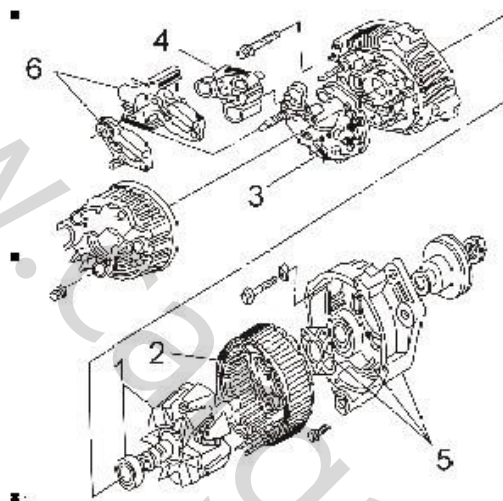

Fig.12-16 Composition of Generator
Lifan car generator is a built-in silicon rectification generator of regulator, which mainly consists of rotor (magnetic pole), stator (armature), rectifier, regulator, electric brush and brush holder, etc. The composition of generator is shown in Fig.12-16.
(2)Disassembly of generator: the exploded view of generator is shown in Fig.12-16, and the generator shall be disassembled as per the following method: